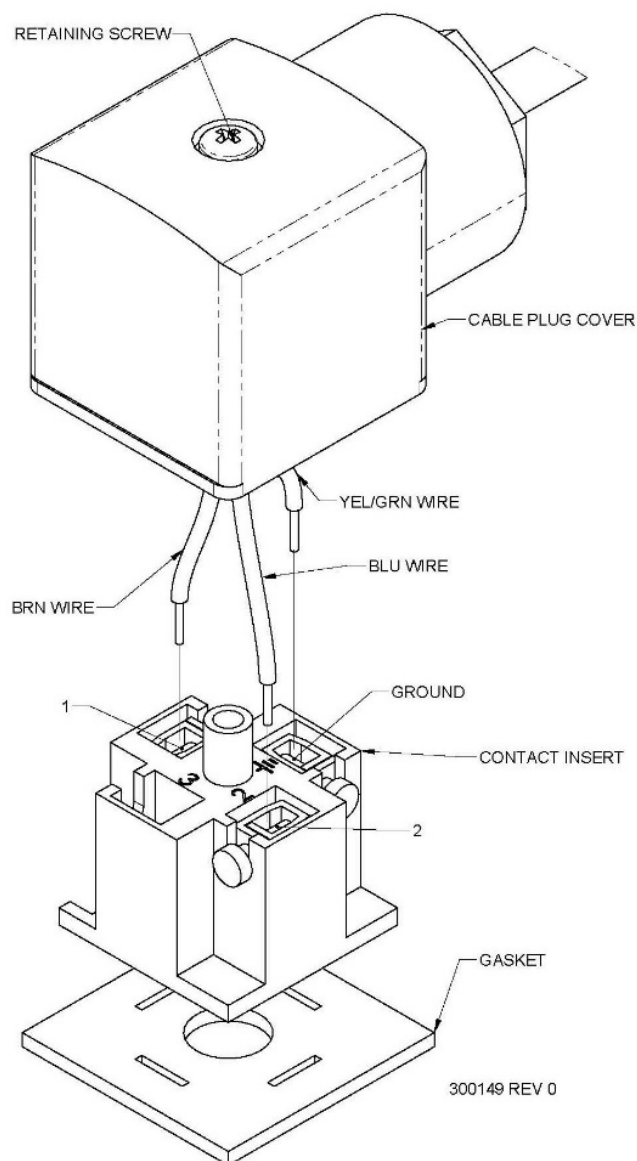

Figure 30 – Solenoid Valve Cable Plug Connections
8. The ends of the new harness are already stripped and tinned. Remove the contact insert from the new valve connector and feed the harness cable through the connector cover. Terminate the leads in the contact insert according to the table in Figure 30 below:
9. Orient the contact insert as shown in Figure 30 above and re-insert it into the cover.